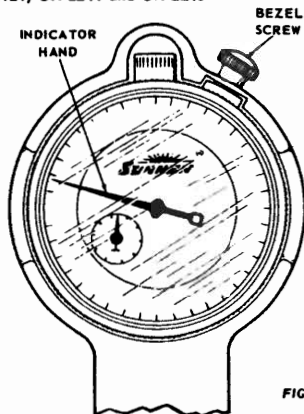

FIGURE 2
5. Recheck "0" setting; reset "0" if necessary by loosening Bezel Screw, rotating indicator dial face, and tightening Bezel Screw (see Figure 2).